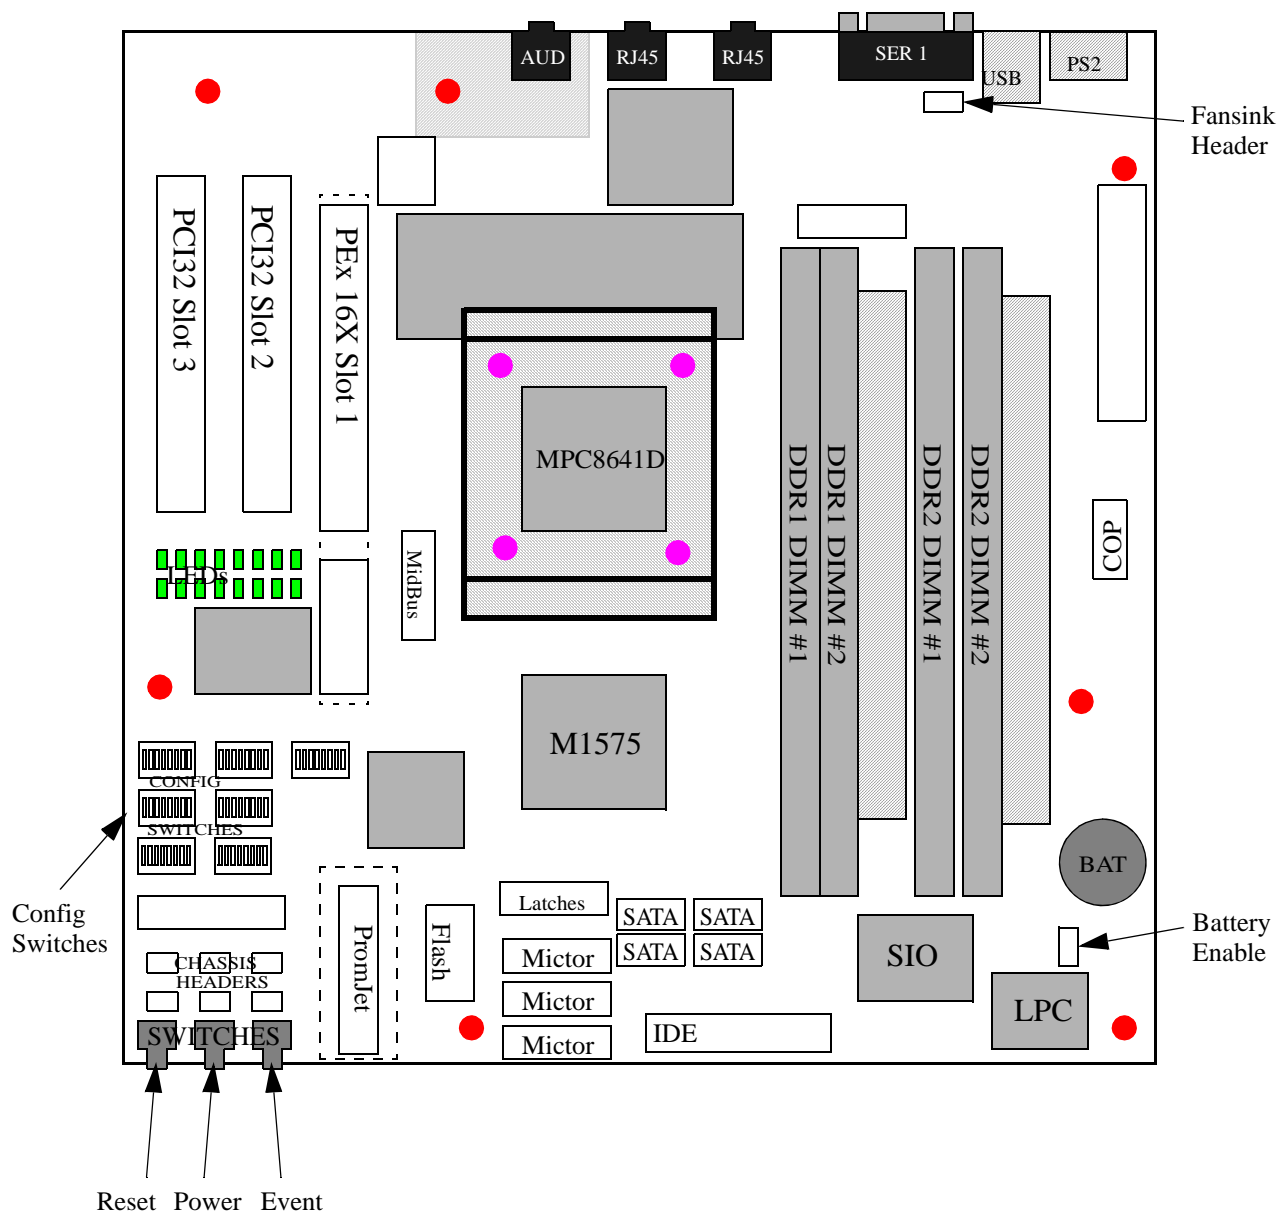

Figure 4. HPCN Evaluation Board Diagram
5. Grasping each side of the case, slide the top of the case forward, then lift and remove the top cover. Figure 4 is a diagram of the HPCN evaluation board.